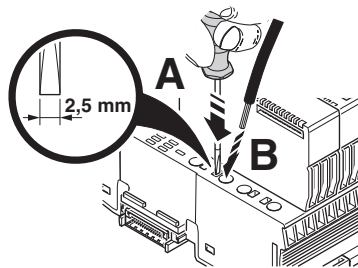

Figure 11-18 Connecting a stranded cable with tools
- Open the spring by pressing the actuation slot with the screwdriver (Figure 11-18, A). Use, for example, a bladed screwdriver with a blade width of 2.5 mm. Phoenix Contact recommends the SZS 0,4x2,5 screwdriver (see Section "Ordering data" on page 142).
- Insert the cable in the terminal point (B).